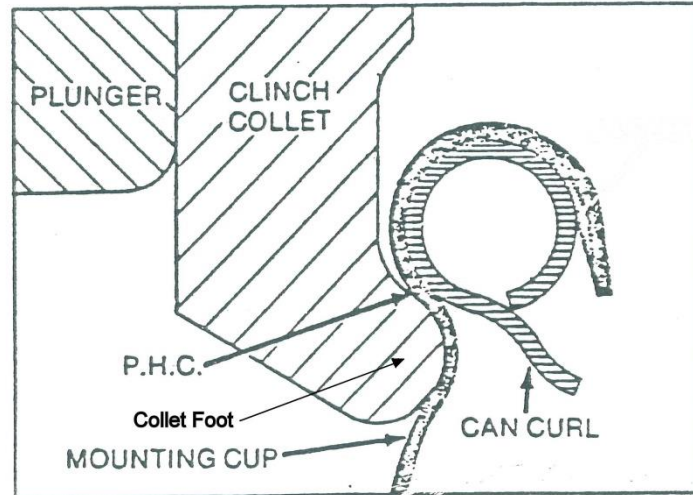

Figure 12 – Cross Section of Crimp being applied
- d. Point of Hard Contact (PHC): The location where the mounting cup contacts the can under the can curl (see Figure 12).